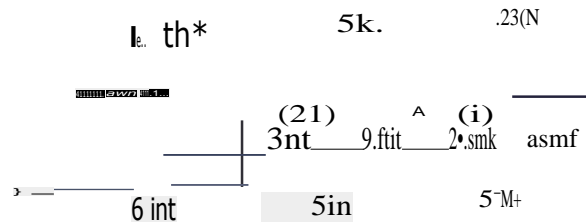

Fig.Q5
- 5 Analyse the continuous beam shown in Fig.Q5 using Kani's method and draw BMD. (20 Marks)